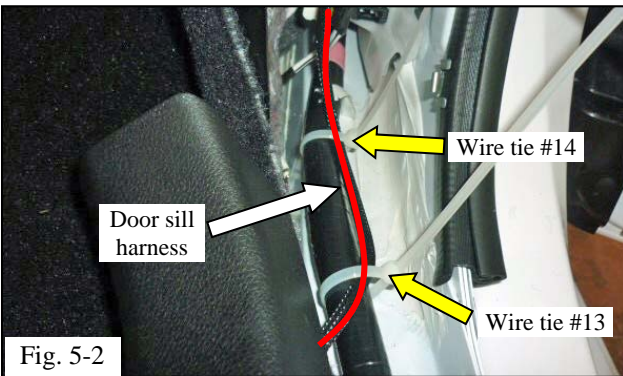

Fig. 5-2
(b) Route the door sill harness along the OE wire harness toward the front of the vehicle (Fig. 5-2).
- ⚠ (f) Starting at the Scotchloks, and working back towards the door sill, tighten all twelve (12) wire ties. Ensure no excess slack exists in the harness. Refer to Fig. 5-2 through Fig. 5-7 for wire tie locations.